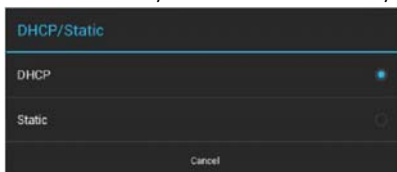

FIG. 53 DHCP/Static window
1. Press **DHCP/Static** to access the DHCP/Static options window (FIG. 53):